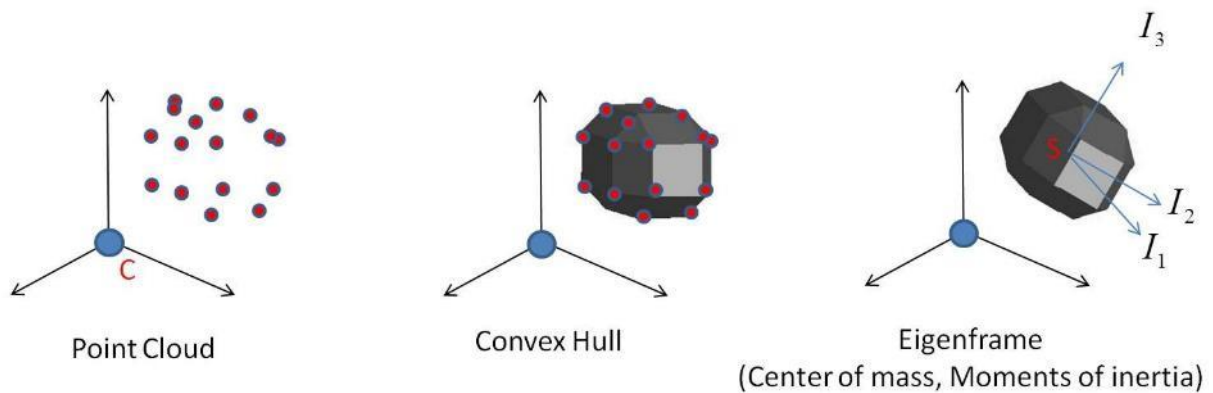

Figure 3-3: Rock is generated from a point cloud and converted into a rigid-body polyhedral.
Rock bodies are introduced into the simulation domain coordinate frame with origin (O) as a cloud of points based in a coordinate system of their own with origin (K). The coordinate frame (K) serves to map the rotations of the rock-body. Points are given in x, y, z format as \*.pts files, and can be artificially generated or gathered from a laser scan of rock deposits (Figure 3-1 and Figure 3-2). A convex hull of the rock-body's point cloud is created, in doing so an entirely convex body is created; concavities are closed over in the process. The next step is to calculate the center-of-mass of the body, for which the density is assumed homogeneous. Finally, the inertial tensor of the body is calculated finding the three principal moments of inertia; the origin is the rock's gravity center (S). The translations of the rock-body in the simulation domain are mapped using coordinate frame S in relation to O (Figure 3-3). The rock's mass  $m$  is given from its volume calculated from the convex hull of the point cloud and a density  $\rho$  which is user defined (typically  $2700 \text{ kg m}^{-3}$ ). The rock has three translational (linear momentum) and three rotational degrees of freedom (spin) to describe the rocks mass center position  $q^T = (X, Y, Z)$  at any time  $t$  in the terrain coordinate frame O. Rotational motions capture the orientation of the rock's external geometry in space. At time  $t = 0$  the rock is released from position  $q_0^T = (X_0, Y_0, Z_0)$ , which, of course, must be located some distance above the terrain,  $Z_0 > Z_m$ , and thus the release height  $h_0$  is  $Z_0 - Z_m$ .